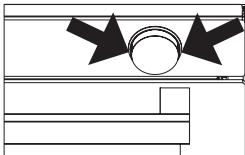
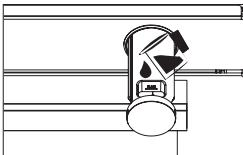
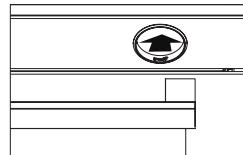

Figure 4
Figure 5
Figure 7
**1.** Remove the water container by pulling it out at the points indicated by the arrow. Fill the water container (See figure 4) and slide it in the direction of the arrow to the starting position to put it in place (See figure 5,6). After 10 minutes of preheating, slide the water container in the direction of the arrow until you hear a "click" (See figure 7).